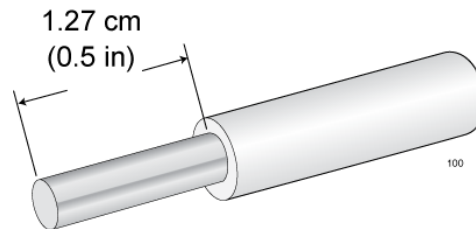

Figure 34. Stripping the Grounding Wire
1. Prepare an adequate length of stranded grounding wire (10 AWG) for the ground connection by stripping it as shown in Figure 34.